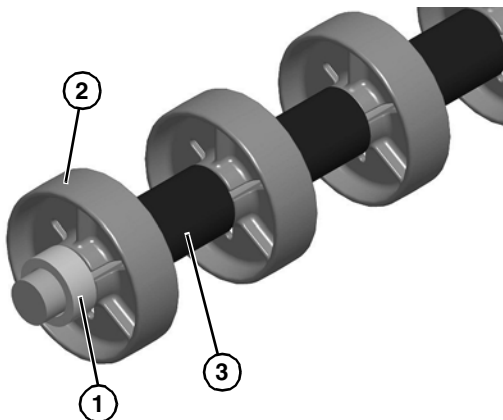

Figure 74
- Remove spacer (**Figure 74, item 1**), rollers (**Figure 74, item 2**) and tube spacers (**Figure 74, item 3**) from shaft.